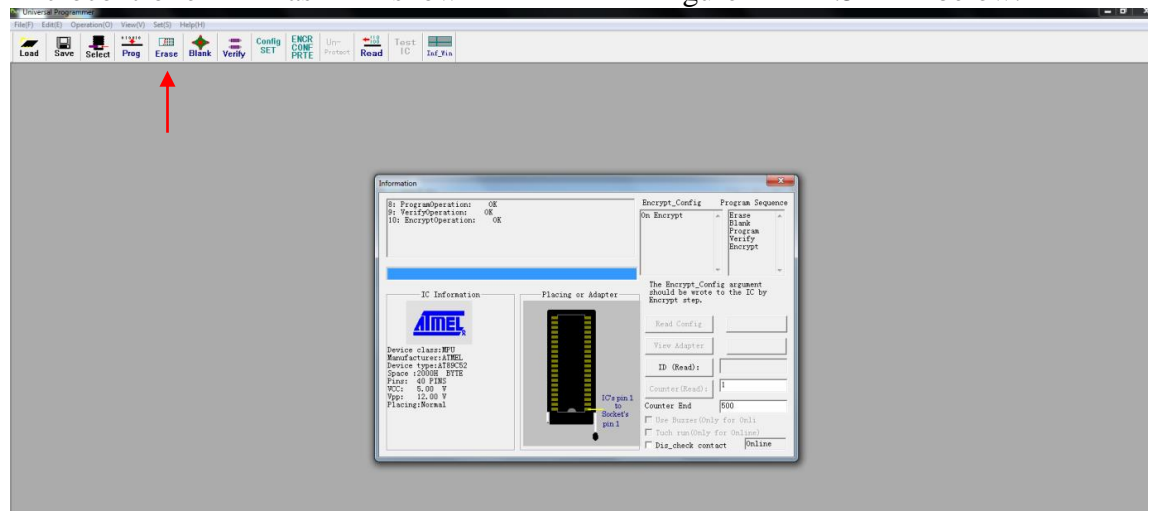

Figure 1.5 Clicking prog to finish the process of loading
- IV. Click on the “Prog” icon to finish the process of loading the program on microcontroller as shown in Figure 1.5 below.